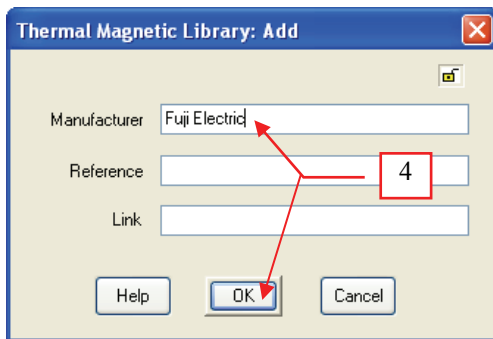

Fig. 15
4. Enter the following on the “Thermal Magnetic Library: Add” dialog box and click the “OK” button. See Fig. 15.